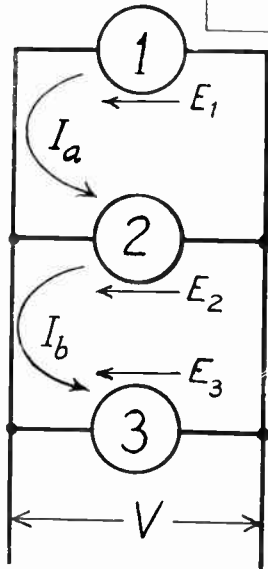

Fig. 9B (left).—CIRCUIT DIAGRAM FOR THREE E.M.F. SOURCES IN PARALLEL.
(2) If in the preceding example the dynamo and battery supply a load of 2 ohms, what will be the common terminal voltage if the no-load e.m.f. of the dynamo is raised to 112 volts? Neglect the effects of armature reaction in the dynamo. Also, what will be the currents in the dynamo and the battery?
The circulating current  $I_x$ , Fig. 9B, is calculated from formula (12). Thus: